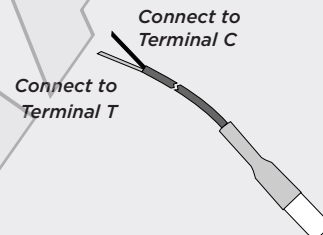

Figure 4: T280R Temperature Sensor Probe
1. Connect the grey wire to the T terminal on the 1115 PCB by running it through the wire opening in the housing. See Figures 4 and 5.